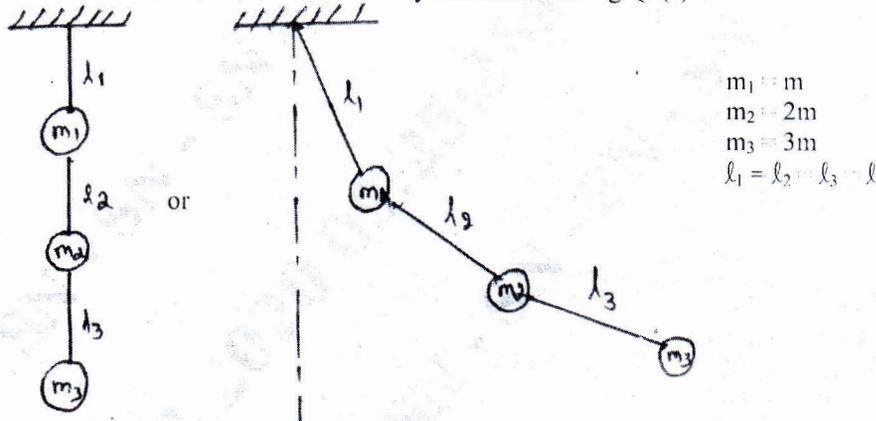

Fig.Q7(a)
- 7 a. Determine the influence coefficient for the system shown in Fig.Q7(a).